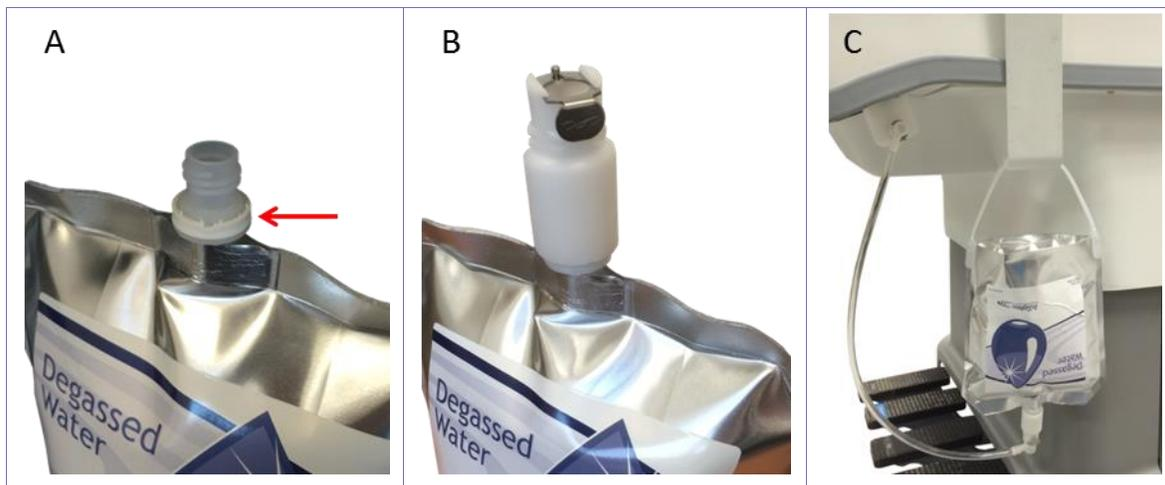

Figure 3-2: Exablate Prostate Preparation of the Water Pouch Assembly
4. Prepare a **new** water pouch assembly and connect to the table (see Figure 3-2):